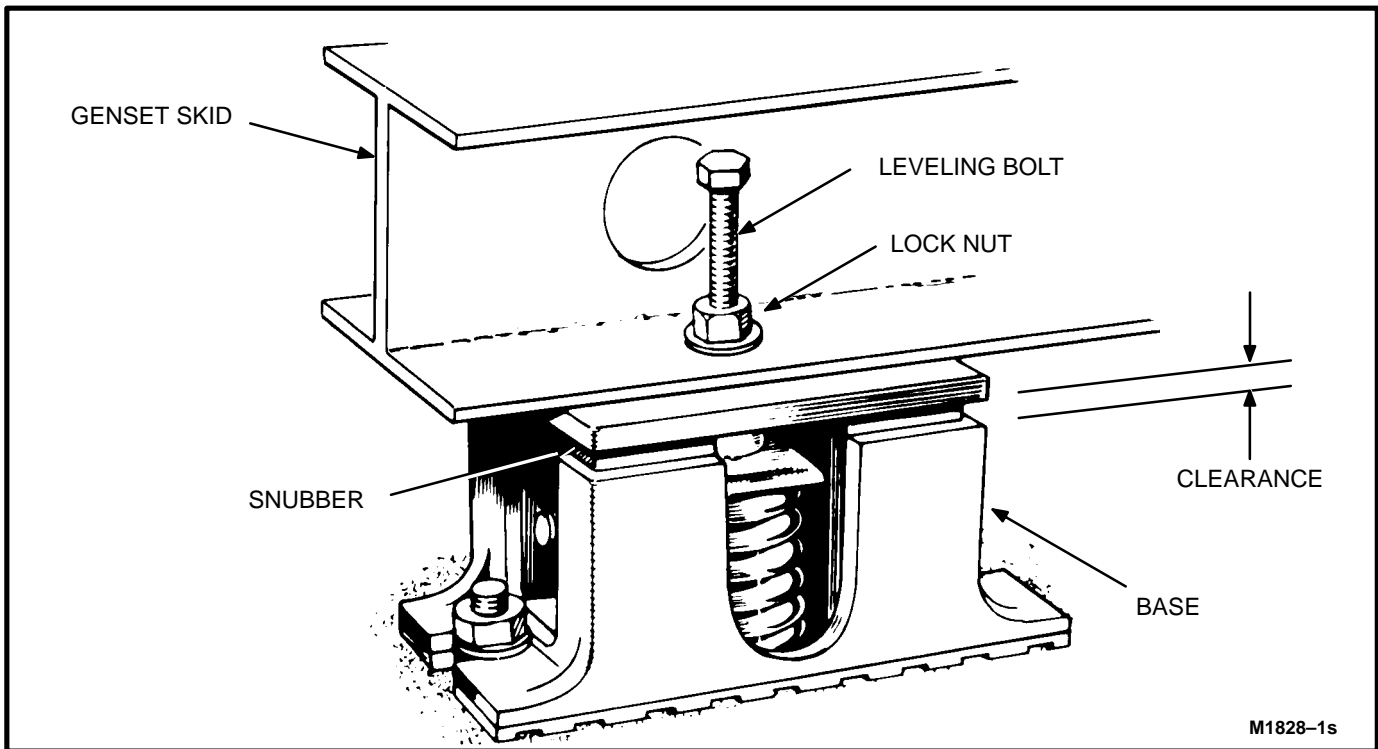

FIGURE 3-3. VIBRATION ISOLATORS
1. Place the isolators (Figure 3-3) on the genset support structure. The isolators should be shimmed or grouted to ensure that all of the isolator bases are within 0.25 inch (6 mm) elevation of each other. The surface on which the isolator bases rest on must also be flat.